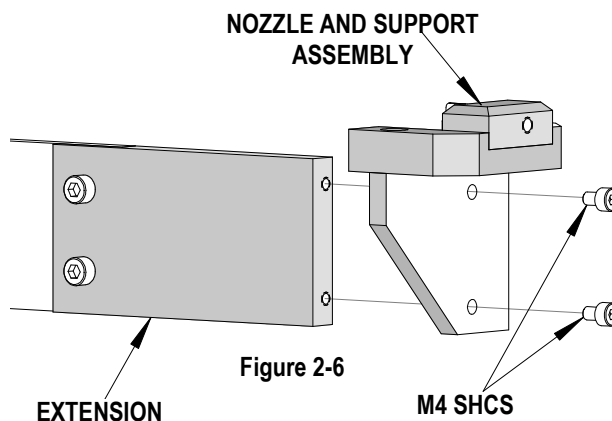

Figure 2-6
1. Remove the two (2) M4 screws in the right end of the tube feeder that hold the nozzle and support assembly assembly. See Figure 2-6.